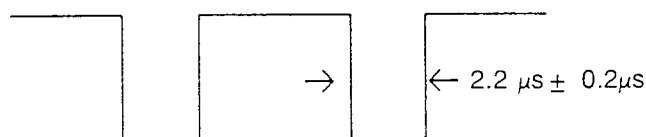

Figure 7-2
- Adjust R228 (H. 31KHZ/35KHZ ADJ) to set the width of the pulse T is  $2.2\mu s \pm 0.2\mu s$ . (Figure 7-2)
- Adjust R255 to set the width of the pulse T is 1.2~1.5ms (Figure 7-2).